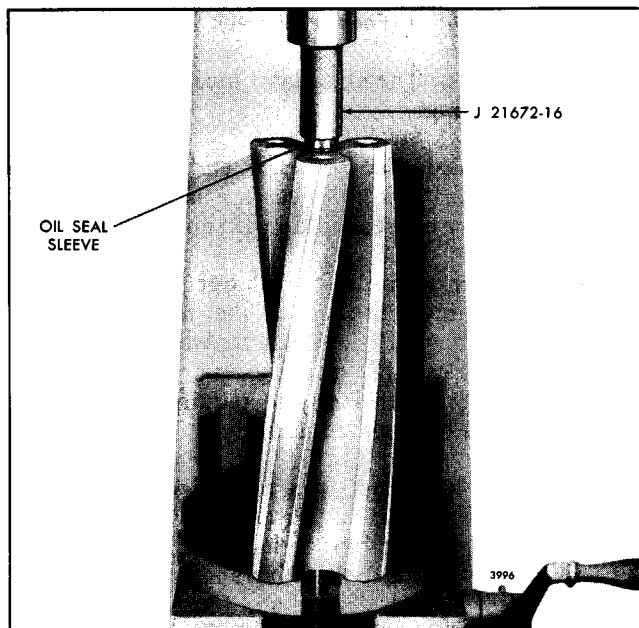

Fig. 12 - Installing Oil Seal Sleeve on Rotor Shaft (Former Blower)
- a. Support the blower rotor, gear end up, on the bed of an arbor press as shown in Fig. 12.